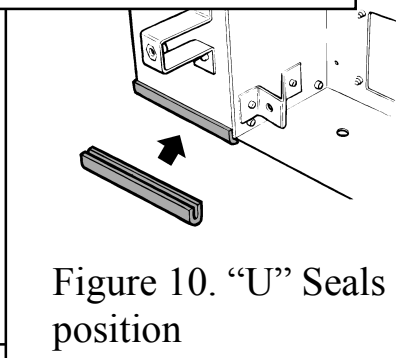

Figure 10. "U" Seals position
5. Fit the two small "U" section seals to the bottom edges of the convection box side flanges. See figure 10.